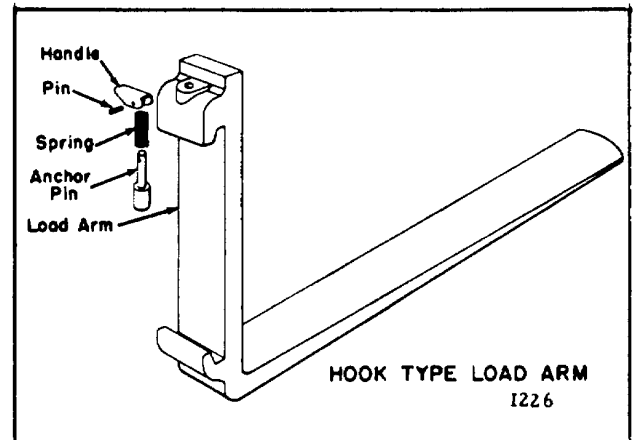

Figure 1.
1. Lower the carriage. Remove the load arms. (Fig. 1) Disconnect the high pressure and bleed back hoses from the carriage.